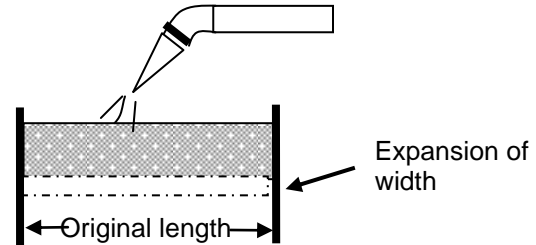

Figure 3B: Restricted metal expands in width when heated
b) is the correct answer. A refers to Figure 3B.